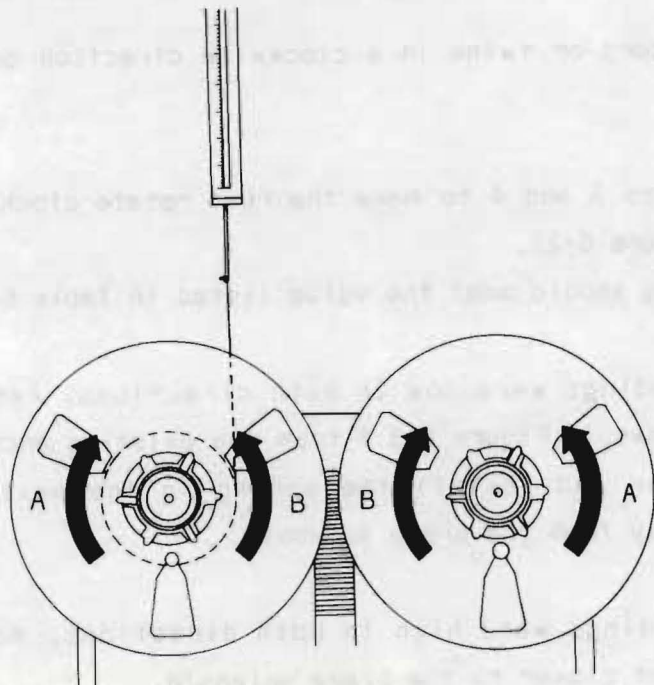

Figure 6-2 Brake Measurement
3. Insert the hook of a 500 g (0-16 ounce) spring scale through the loop and hold the spring scale upright as shown in Figure 6-2.
4. Pull on the scale slowly to make the reel rotate counterclockwise (direction "B" in Figure 6-2).
6. Repeat steps 3 and 4 to make the reel rotate clockwise (direction "A" in Figure 6-2).